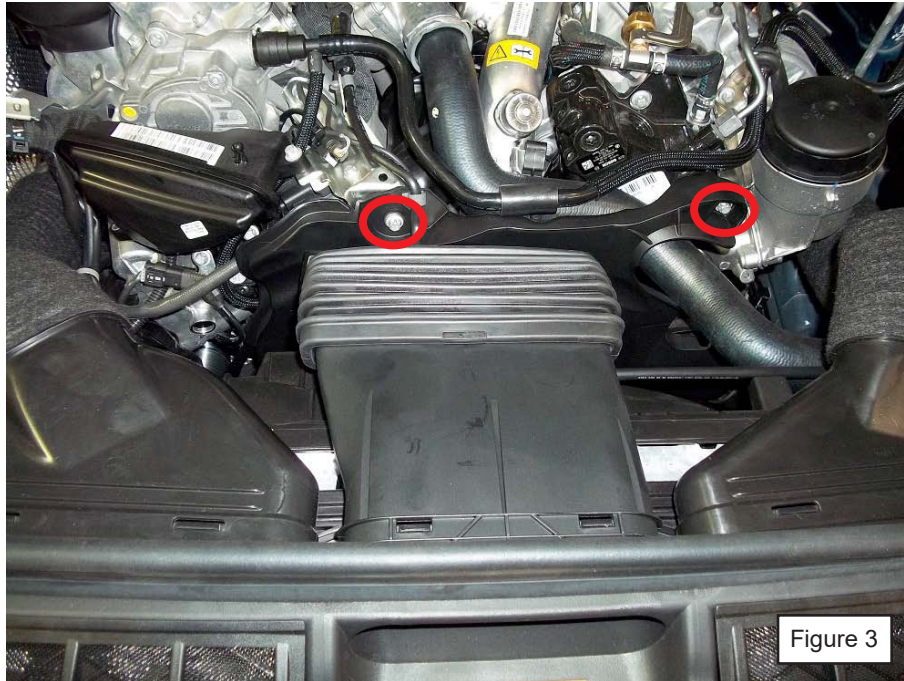

Figure 3
4. Remove the two bolts securing the front engine cover along with the air intake snorkel (see figure 3).